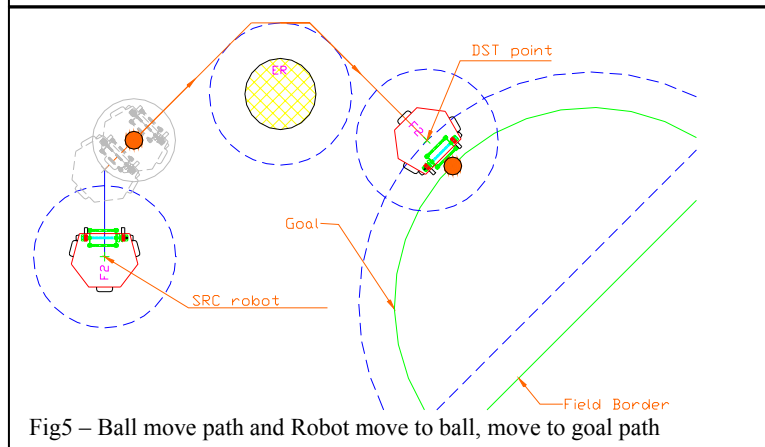

Fig5 - Ball move path and Robot move to ball, move to goal path
- **Ball move path** to goal is shown in red(fig 5).
- **Robot move to ball, move to goal path** - fig 5